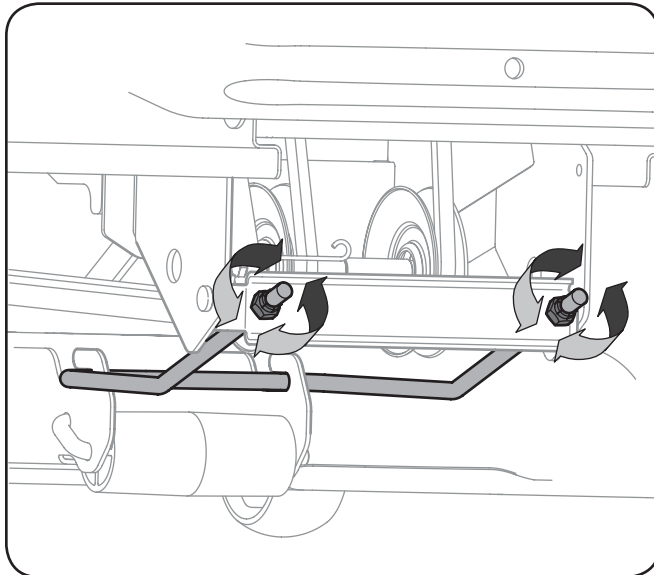

Figure 2-8
5. To *lower* the front of the deck, loosen (thread outward) the hex nuts, away from the front hanger bracket. See Fig. 2-8.